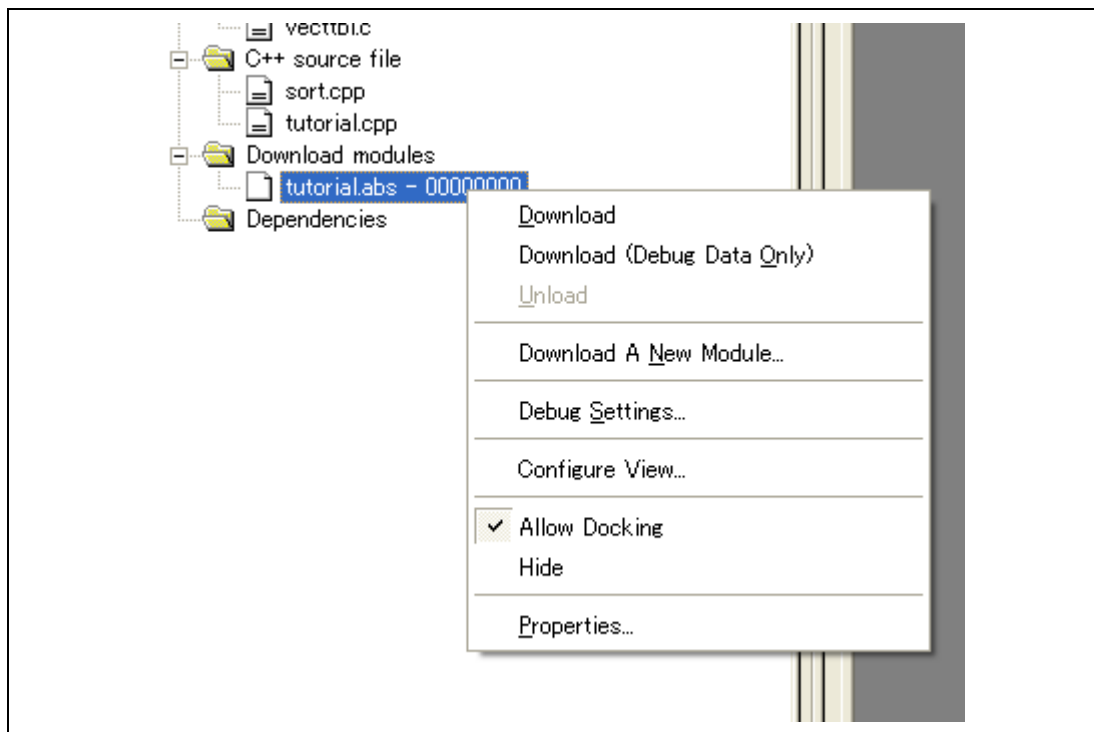

Figure 4.18 Download Menu of the [Workspace] Window ([Projects])
2. Click the [Add...] button to display the [Add new session] dialog box (figure 4.18).